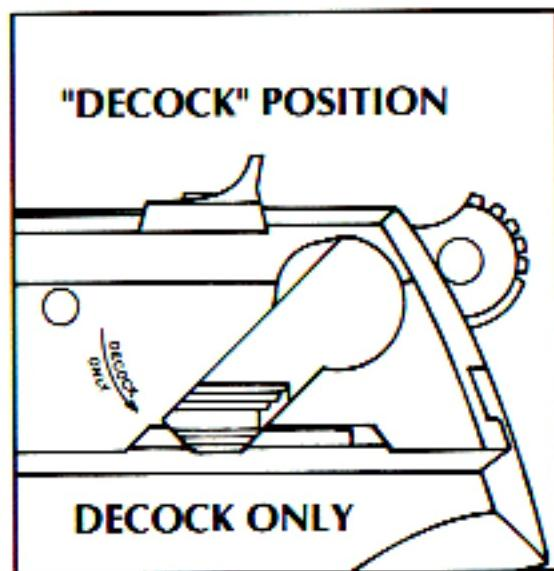
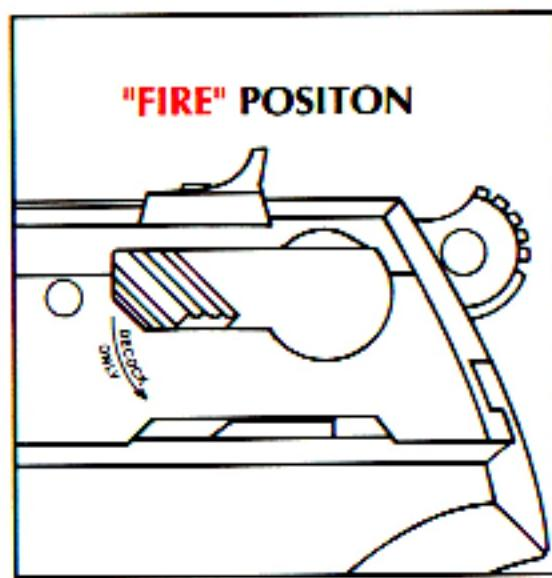

FIGURE 1
FIGURE 2
To decock the pistol, point the pistol in a safe direction. Depress the decocking lever until the hammer drops. The decocking lever first moves the firing pin into the slide far enough so that the rear end of the firing pin cannot be struck by the hammer. Only then will continued depression of the decocking lever safely drop the hammer to an uncocked position (see Figure 1). To return the pistol to firing condition, simply release the decocking lever (see Figure 2). It will spring upward to its original position. The pistol is then ready to fire by a "double-action" pull of the trigger. The hammer can also be manually cocked immediately before shooting a "single-action" firing. The trigger pull is both shorter and relatively lighter in the "single-action" mode, which is preferred for more accurate shooting.
1. The muzzle of the pistol must be pointing in a safe direction at all times, and fingers should be outside of the trigger guard. Decock the pistol by depressing the decocking lever until the hammer drops (See Figure 1, p. 6).